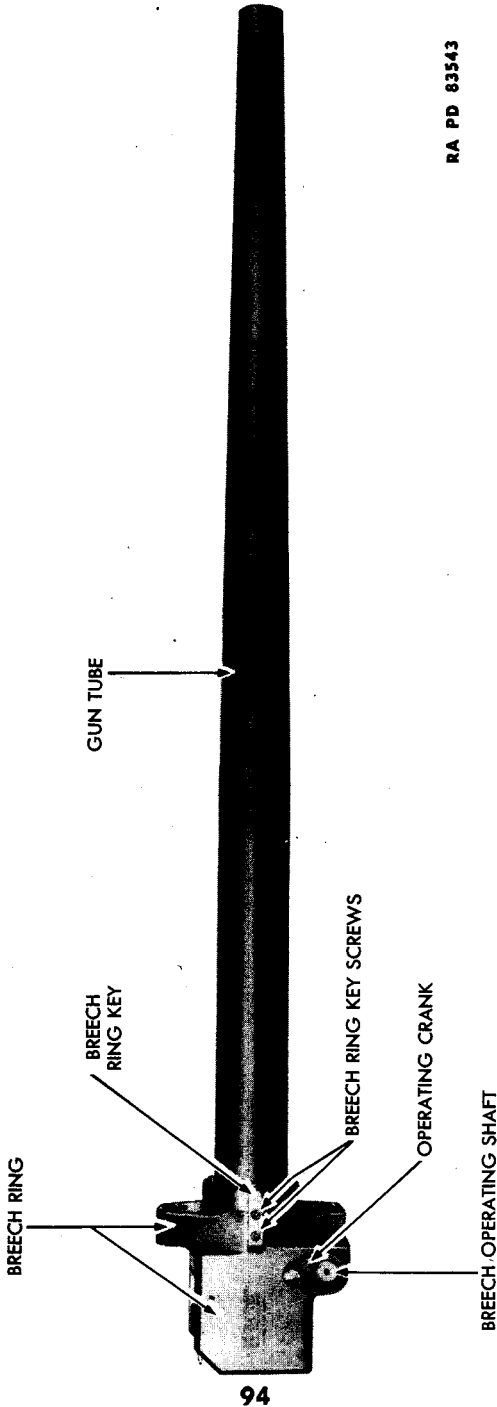
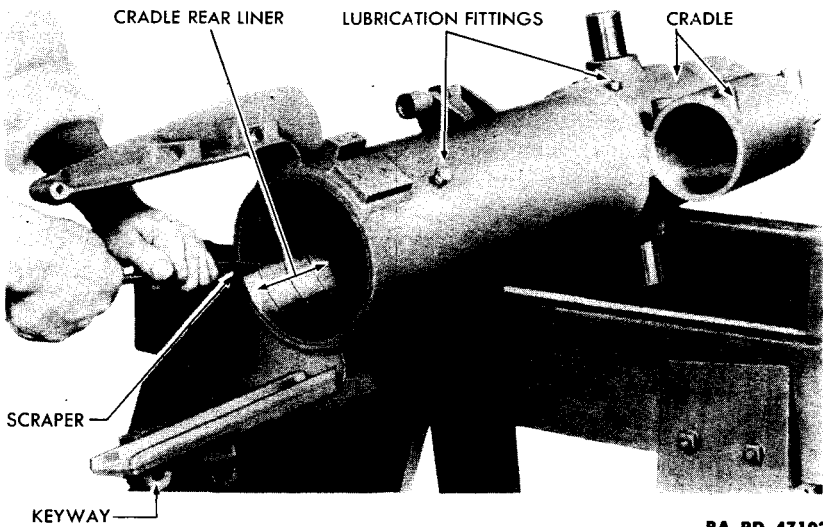

Figure 94 — Gun Tube and Breech Ring Assembly — Cradle Removed
Figure 96 – Scraping Burs from Bronze Liner
(1) **NOTE:** The cradle is alined in position on gun tube and prevented from rotating from this position by means of a keyway on cradle (fig. 96) that engages a key (fig. 94) which is mounted on right side of breech ring. The cradle is secured to breech ring by means of recoil piston rod retaining nut on end of recoil cylinder (figs. 64 and 65). Recoil cylinder is further secured to breech ring by means of a screw and copper plug (figs. 3 and 63) that engage threads of recoil piston rod end nut (fig. 65).
(2) **NOTE:** In order to remove cradle, the recoil cylinders must be disconnected from breech ring (figs. 63 and 64). Great care will be taken when recoil cylinders remain mounted in cradle and are to be removed as a unit with cradle, so that cradle and recoil cylinder assembly do not rotate on gun tube and damage cylinders, or cause injury to personnel when keyway on cradle (fig. 96) becomes disengaged from key on breech ring (fig. 94).
b. **Inspect Bronze Liners.** Examine liners which are mounted inside cradle (fig. 96). If lines are scored, remove scores by scraping liner until smooth, using a long-handled bearing scraper (fig. 96), then polish liners with CLOTH, crocus. If liners are loose, cracked or badly worn, notify heavy ordnance personnel for replacement of liners.
d. **Inspect Keyway (fig. 96).** Examine keyway. If scored, smooth keyway by scraping (flat and hook scrapers), and polish with CLOTH, crocus.